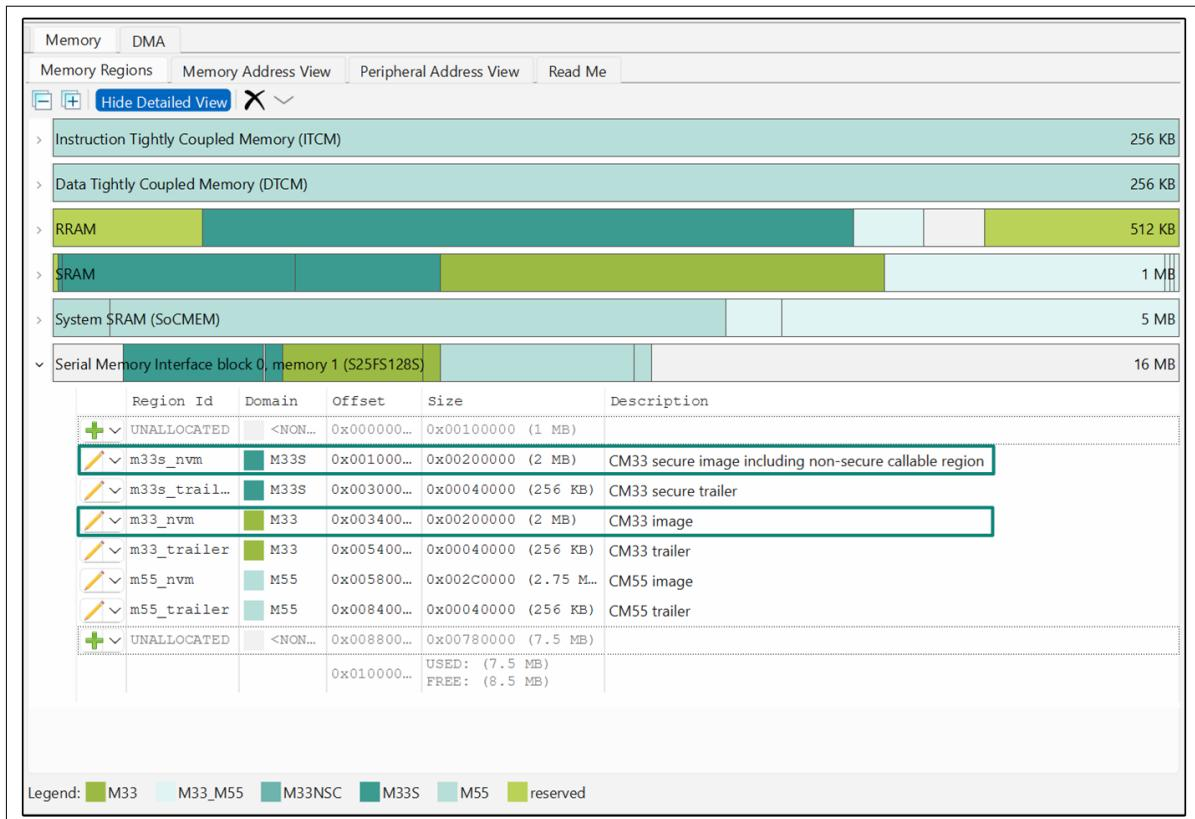

Figure 10 Default memory layout for external flash
2. Notice in Figure 10 that the external flash memory listed under Serial Memory Interface Block 0 (SMIF0) allocates **2 MB** for the CM33 secure image (memory region `m33_s_nvm`) and **2 MB** for the CM33 non-secure image (memory region `m33_nvm`). To achieve the desired memory sizes, we will adjust the offset and size of these memory regions